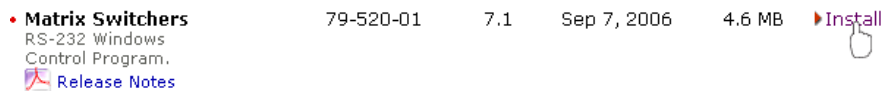

Figure 5-2 — Software installation
3. Scroll to the desired program and click **Install** (figure 5-2).